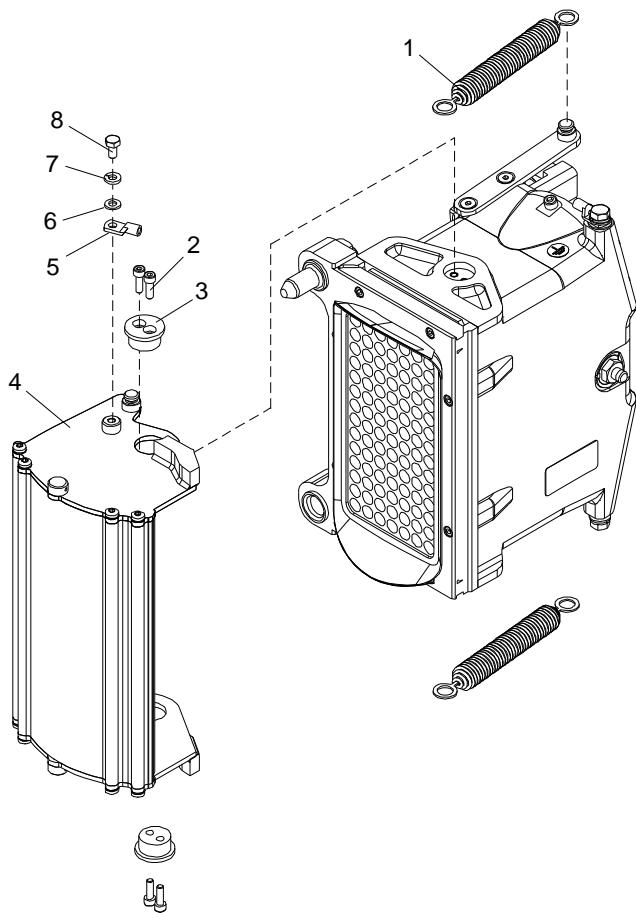

Figure 7-18: Replacement of Cover Complete
2. Remove the two springs (1). See Figure 7-18.
3. Remove the ground cable (5) by removing screw (8), lock washer (7) and washer (6).
4. Remove the cover (4) by removing screws (2) and pins (3).
2. Fit the cover (4) and mount pins (3) and screws (2). See Figure 7-18.
3. Fit the springs (1).
4. Fit the ground cable (5) and mount washer (6), lock washer (7) and screw (8).